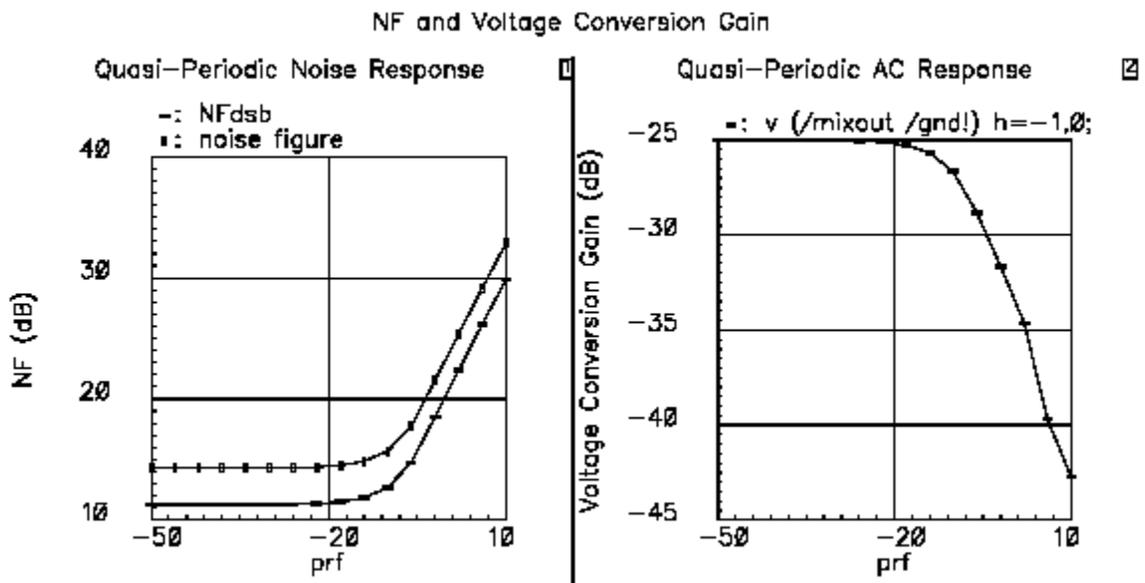

Fig 13: Voltage Conversion Gain & NF in presence of Blocking Signal
- *View the results as shown in Fig13*